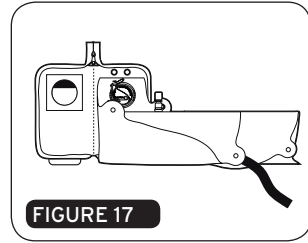

FIGURE 17
1. Place the LP on a clean, flat surface with the hydrostatic inflator face down, and fold the inflation cell along each folding line in sequence, numbers 1–11 (Figure 17).